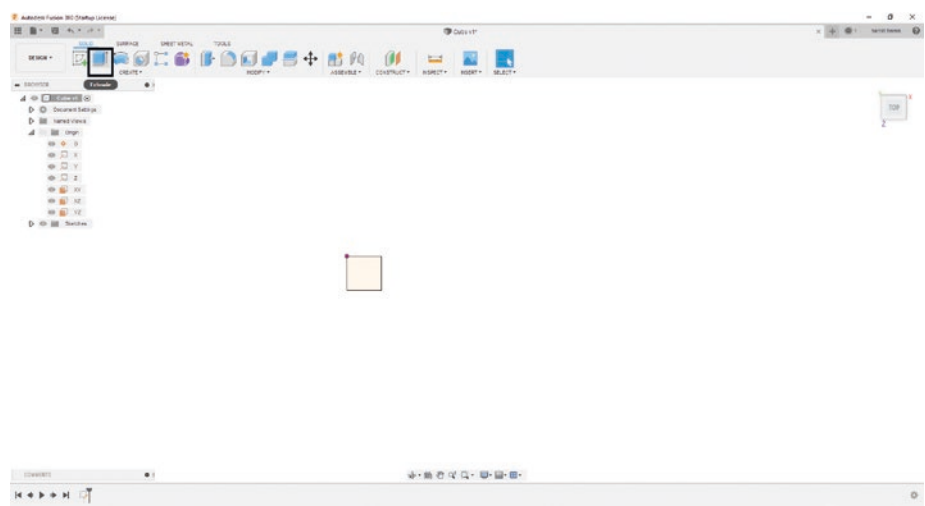

Figure 3-49. *Select the Extrude function*
1. Select the “Extrude” function from the “SOLID” tab. See Figure 3-49.